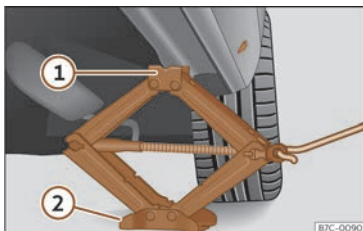

Fig. 243 Crossbar: mounting the jack on the vehicle.
- Turn the jack crank handle, located below the strut support point, to raise it until the tab ① >>> **Fig. 243** is below the housing that is provided.
- Align the jack so that the tab ① “grips” onto the housing provided on the cross member and the mobile base ② is resting on the ground. The base plate ② should fall vertically with respect to the support point ①.